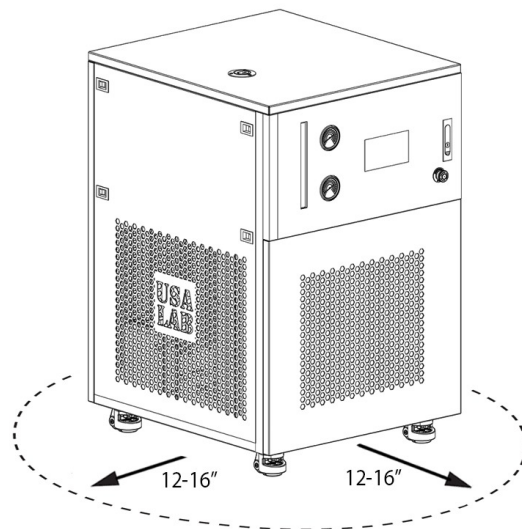

Figure 1 - Safe operating area around the chiller unit
- Figure 1 - Safe operating area around the chiller unit11